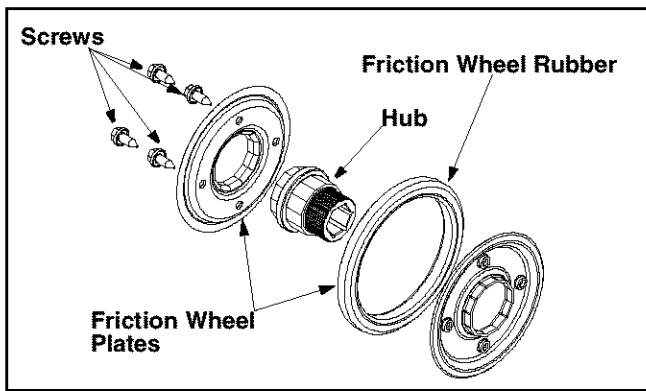

Figure 27
- Remove the four screws from the friction wheel assembly. See Figure 27.
- Reassemble new friction wheel rubber to the friction wheel assembly, tightening the six screws in rotation and with equal force. See Figure 27.